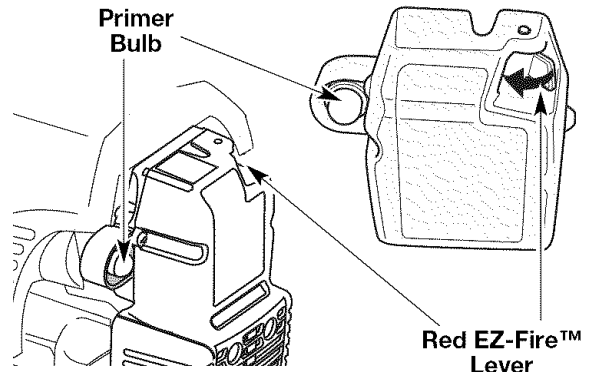

Fig. 10
1. Move the throttle control to the idle position (🐢). Allow the engine to cool down by idling (Fig. 10).
2. Put the On/Off Stop Control in the OFF (O) position (Fig. 10).
2. The On/Off Stop Control is in the ON (I) position at all times (Fig. 10).
3. Fully press and release the primer bulb 10 times, slowly. Some amount of **fuel should be visible in the primer bulb** and fuel lines (Fig. 10). If you can't see fuel in the bulb, press and release the bulb as many times as it takes before you can see fuel in it.
5. **Push the red EZ-Fire™ Lever towards the primer bulb** until it clicks and locks into place (Fig. 10).